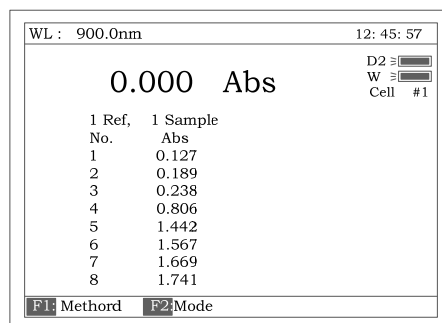

Fig 107
- Remove 8 references and put 8 samples into CELL No.1-No.8. Press the **[START]**, the results are taken **automatically**. Fig 107.